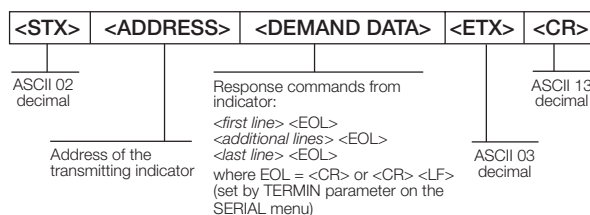

Figure 13-4. RS-485 Respond Data Format
*Example, with demand outputs, or in response to an XG#1 command, the responding indicator uses the format shown in Figure 13-4:*
The indicator responds with the format shown in Figure 13-4 on page 125: